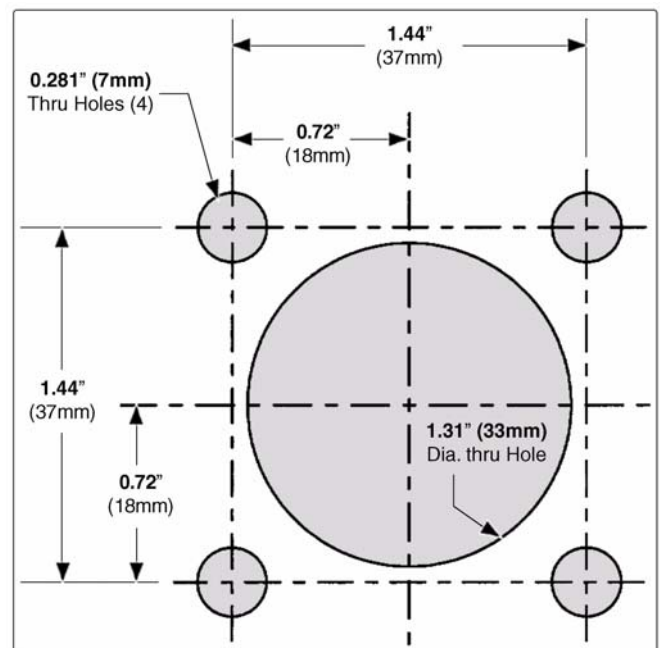

Figure 3-40: Top Mount Sensor Dimensions
Flange cutout dimensions are shown in Figure 3-40: “Top Mount Sensor Dimensions.” The flange gasket can also be used as a template to mark hole location.
1. Layout and drill holes in the top of the foam tank. (See Figure 3-40: “Top Mount Sensor Dimensions” on page 95.)